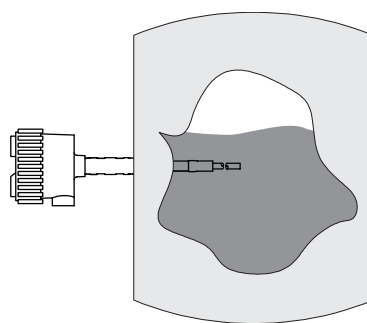

Figure 4-2
3. Turn setpoint adjustment slowly clockwise (CW) until the relay just operates. (LED changes state).
4. Increase the material level until it is well above the sensing element. *See Figure 4-2.* (LED changes state).
6. Counting the number of turns, turn the setpoint adjustment slowly clockwise (CW) until the relay once again just operates.